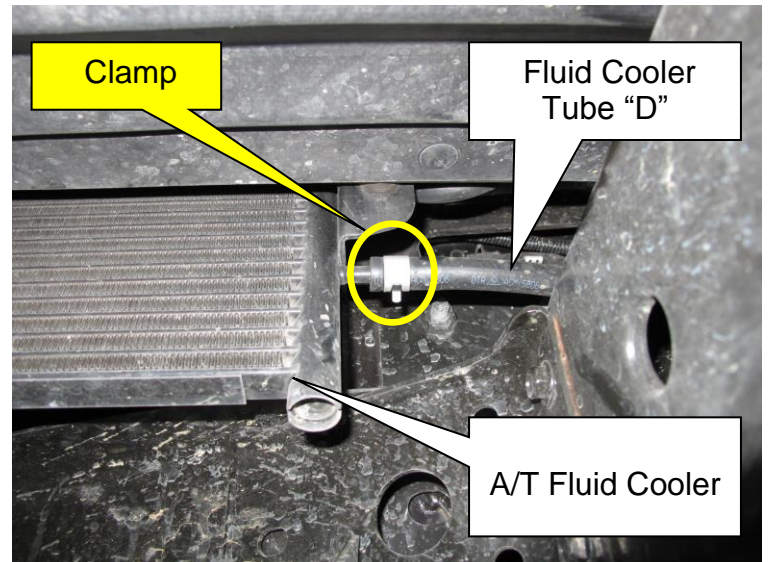

Figure 12
10. Locate the clamp connecting the A/T fluid cooler and fluid cooler tube "D". (Figure 12)